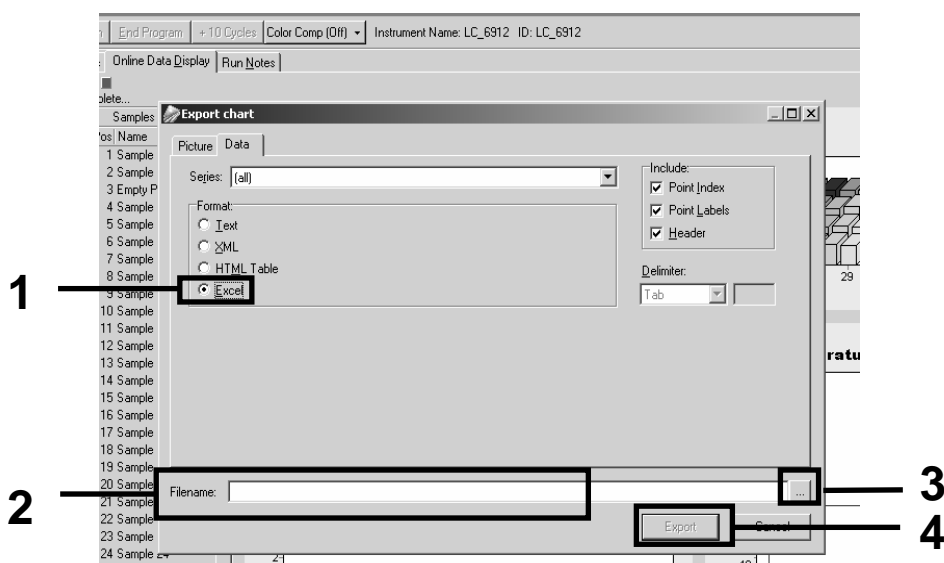

Figure 30. Selecting the export format and data file destination.
13. Click the “Excel” box on the “Export chart” dialog box (Figure 30). Enter a name in the “Filename” dialog field. Select an export destination for the result file with the  button. Click “Export”.